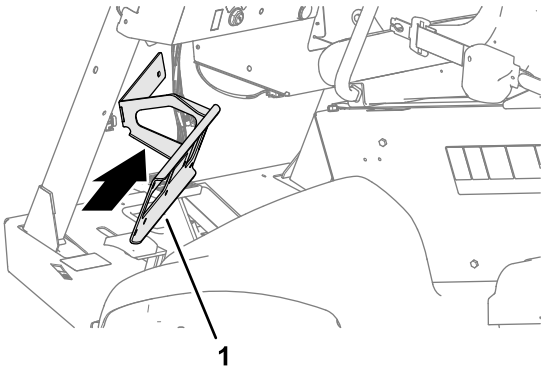

Figure 28
- 1. Align the manifold mount to the front of the machine as shown in Figure 28.